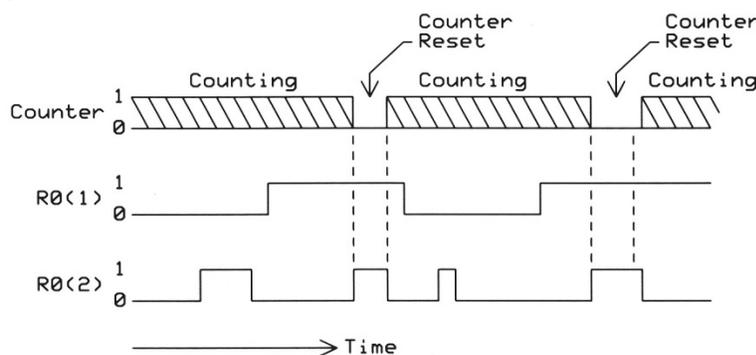

Figure 3.11.
Connect a jumper from ground to either pin 2 or pin 3 on the 74LS93 counter. What happens now? The count should resume, 0, 1, 2, and so on. Internal to the counter, the R0(1) and R0(2) inputs go to an AND circuit, also called an AND "gate" that requires a logic-1 at pin 2 AND a logic-1 at pin 3 to cause a reset. The timing diagram in **Figure 3.11** shows the relationship between the R0(1) and R0(2) reset inputs and the counter operation.